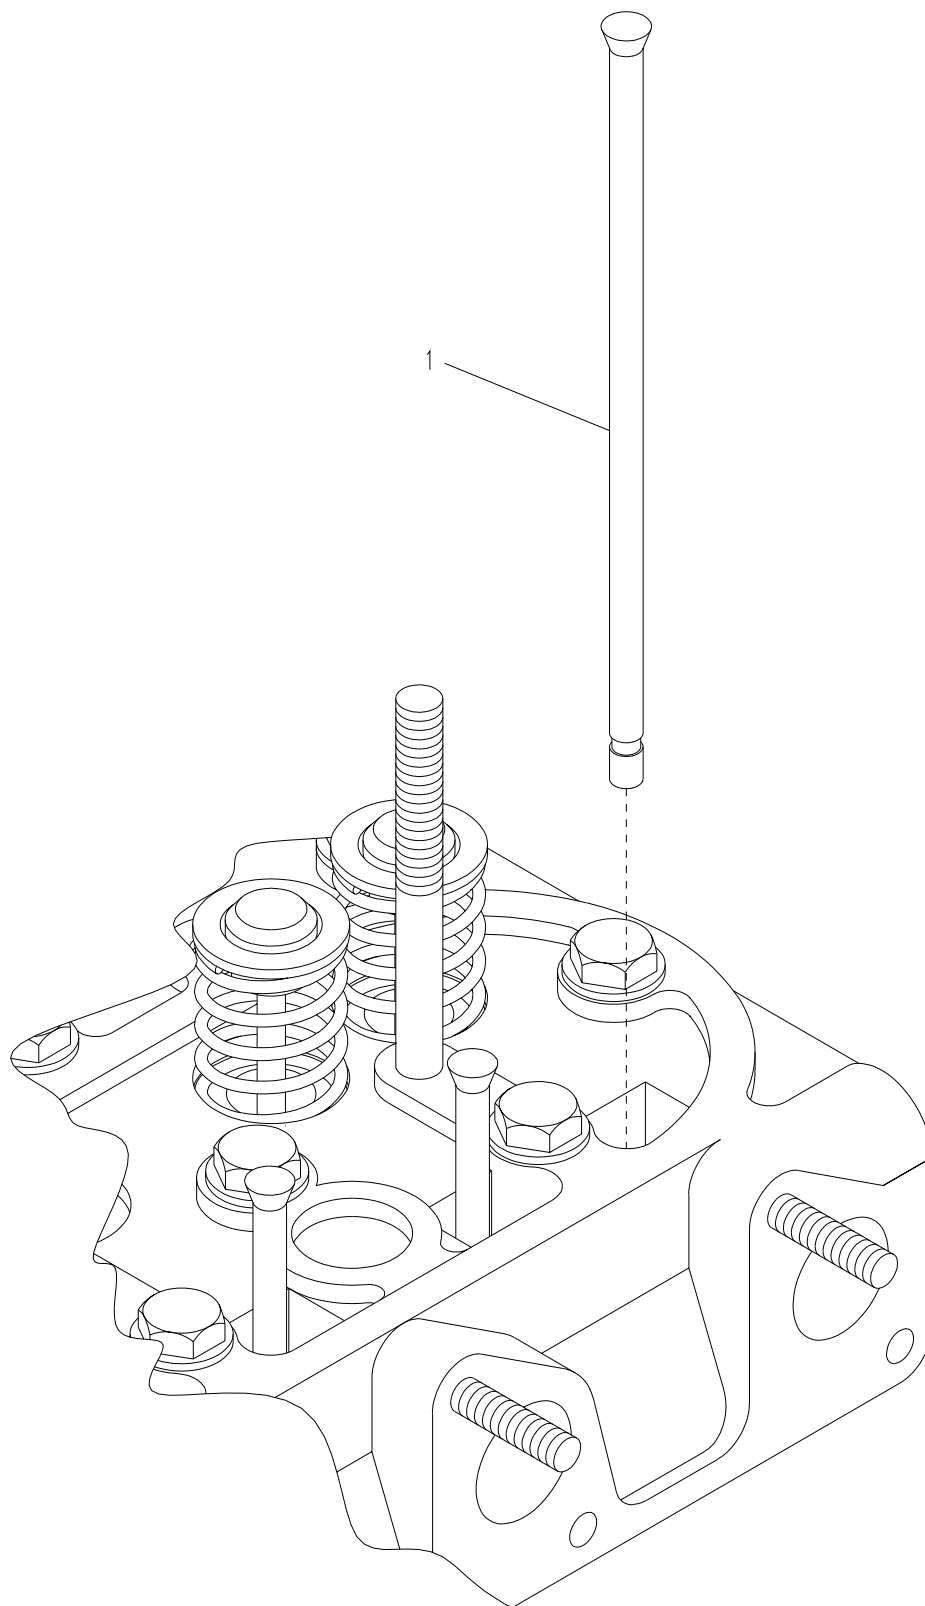

Figure 6-1. Push Rods
- a. Remove push rods (1, Figure 6-1) from tappets by hand.